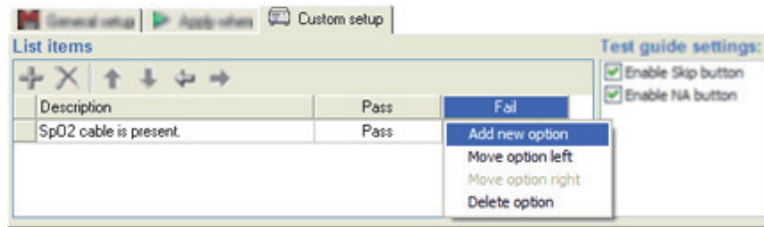

Figure 3-30. Edit Option Menu for a Checklist
- Right click in the column named **Fail** in the **List Items** frame shown in Figure 3-30 to display the edit option menu.